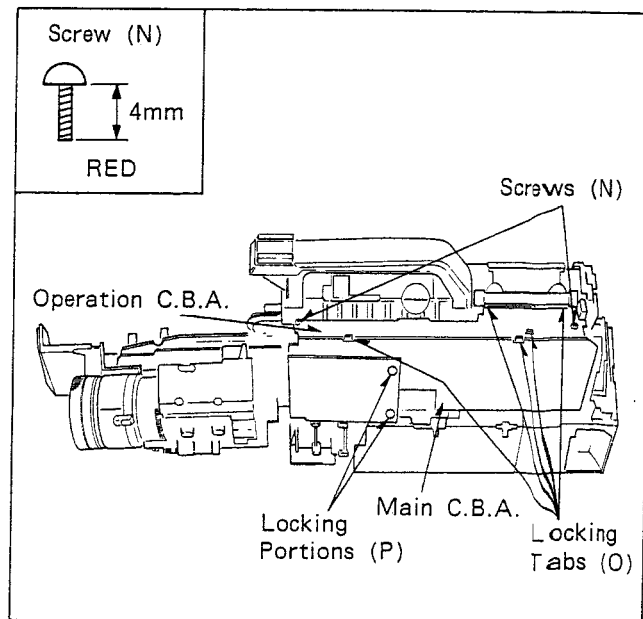

Fig. D8
- (1) Unlock the Locking Portions (P) shown in Fig. D8 and then open the Luminance / Chrominance C.B.A. slightly.